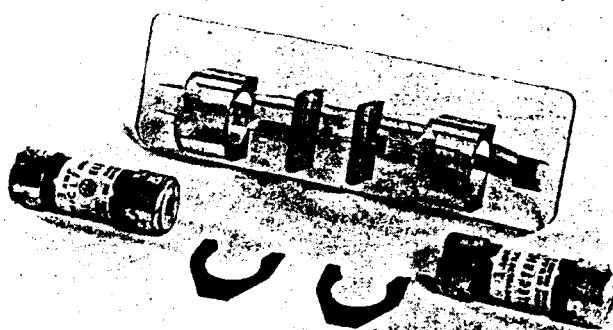
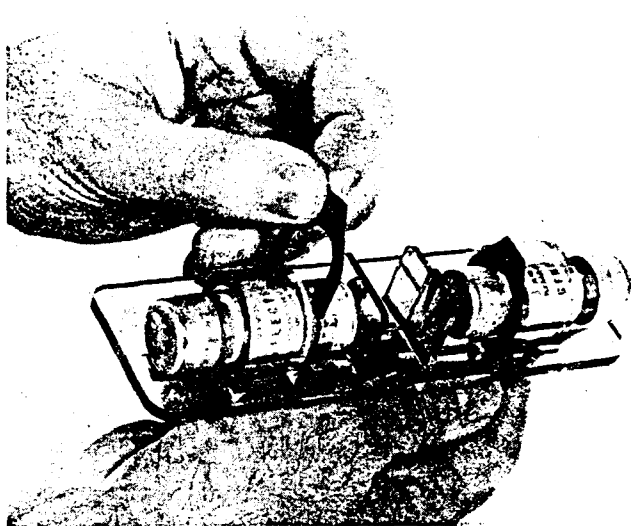

Figure 3
Figure 4
3. The fuse-holding function is supplied by the see-through Lexan® cover. This cover contains two fuses and two fibre fuse retainers. See Fig. 3. Insert the fuses in the holes provided at opposite ends of the cover. Add the fuse retainers to lock the fuses in place. See Fig. 4.